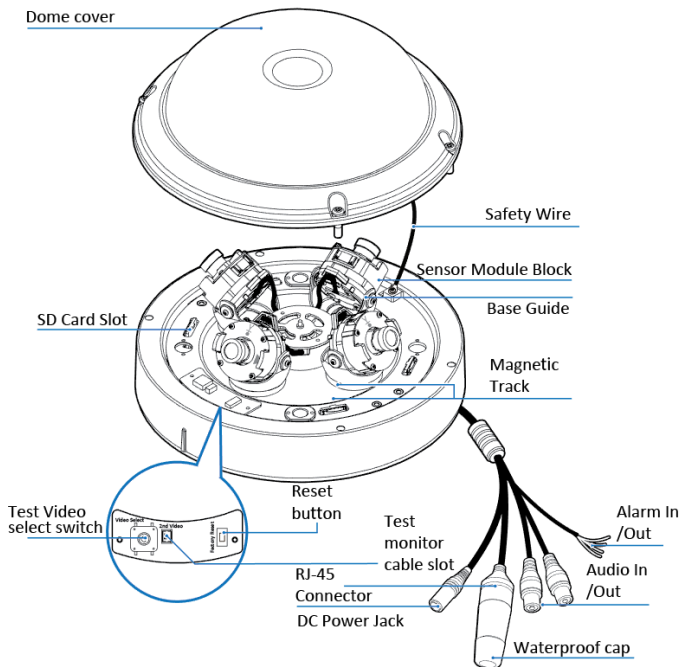

Figure 1
1. Use the Torx wrench to remove the four screws on the camera dome (Figure 1) and remove the dome from the camera base.
### Camera Parts: Figure 1